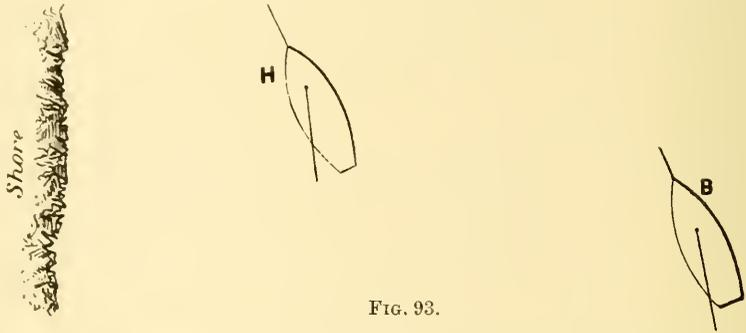

FIG. 93.
Bedouin and Halcyone, in Belfast Lough, were working along a shore with a smart breeze; both were on starboard tack, with Halcyone (H) under the lee bow of the other (B, as shown in Fig. 93), from thirty to forty yards off. Halcyone, when as close in shore as she